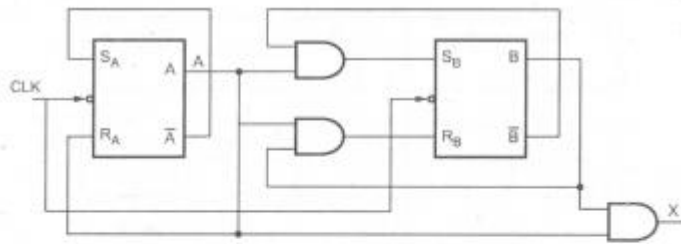

Fig. 7
Q.7 b) Give output function, excitation table and state transition diagram by analyzing the sequential circuit shown in Fig. 7.